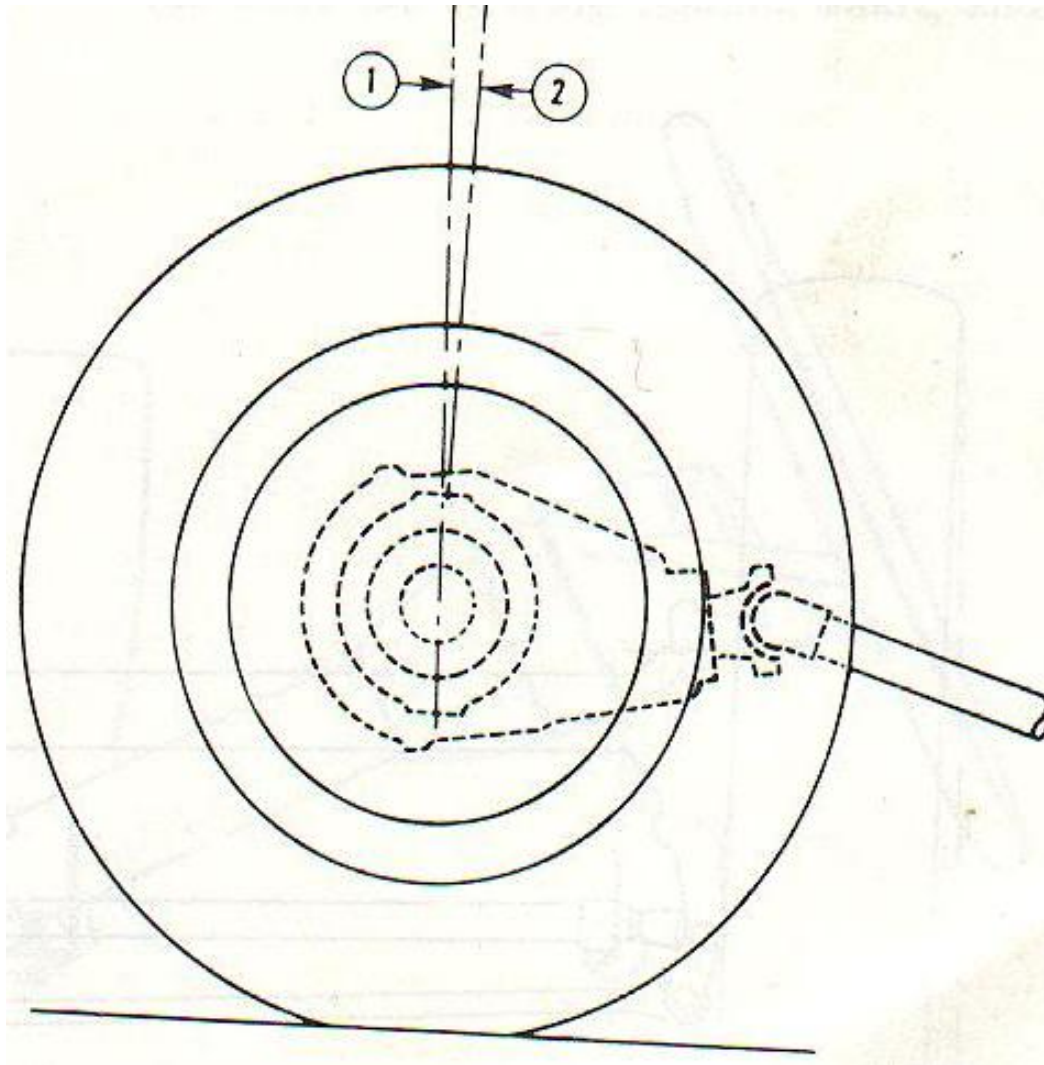

Figure 2-64. Axle Caster
c. Wheel Alinement. Front wheel alinement affects steering of the vehicle, from a standpoint of control, ease of steering and safety, and is an important factor in the life of the tires. The items affecting front wheel alinement are caster, camber and toe-in. Caster and camber angles are built into the front axle housing and cannot be changed; however, caster and camber angles may be affected by damaged springs, frame distortion, loose bearings, bent steering linkage or a damaged axle housing. Refer to figures 2-64 and 2-65.